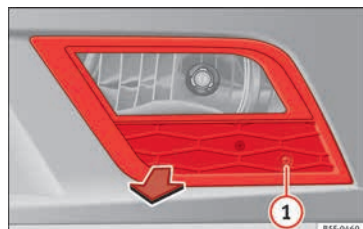

Fig. 95 Front fog light.
- Remove the bolt » Fig. 95 ① from the fog light grille with a screwdriver.